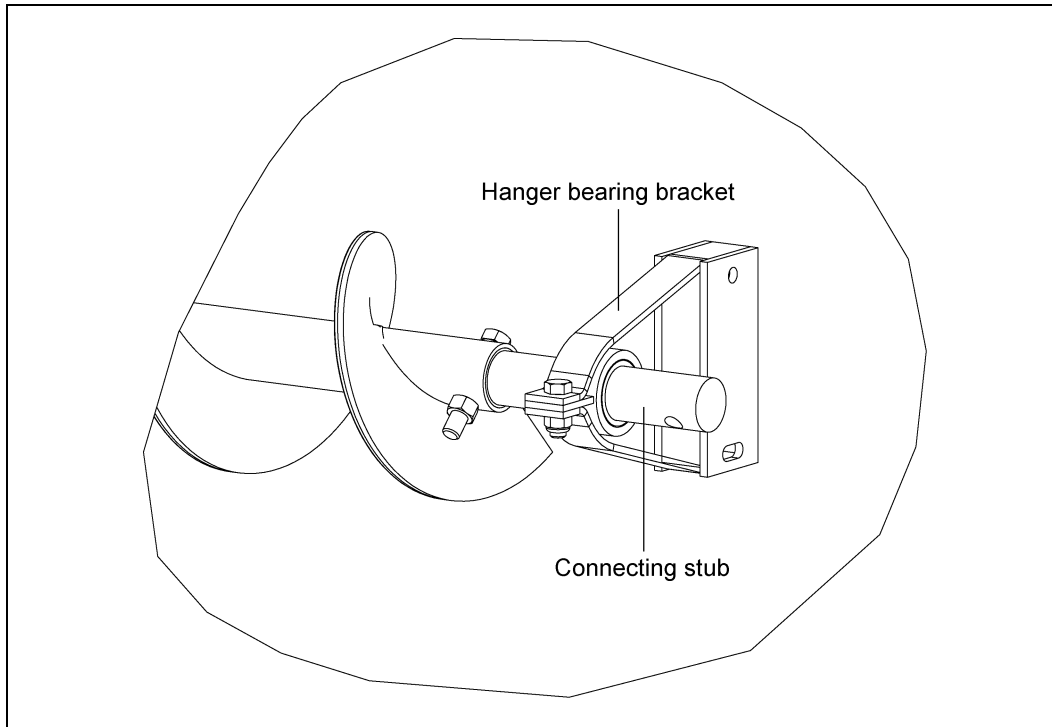

Figure 4AB
- Install the next section of flighting onto the connecting stub. Secure the flighting with bolts and stover nuts. *(See Note for Bolt Size on Page 31 and Figure 4AC below.)*